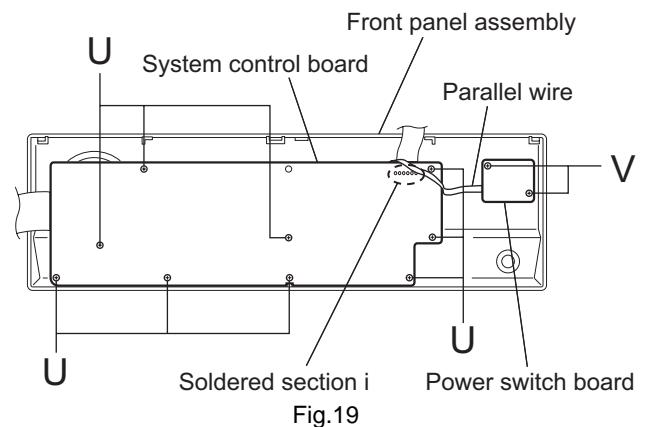

Fig.19
- (2) From the back side of the front panel assembly, remove the nine screws **U** attaching the system control board. (See Fig.19)
- (3) Remove the solders of the soldered section **i** on the system control board and disconnect the parallel wire. (See Fig.19)
- (4) Remove the two screws **V** attaching the power switch board. (See Fig.19)